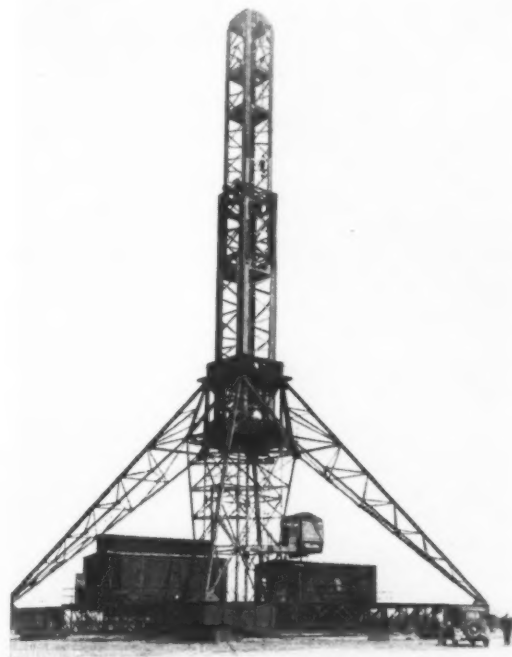

Fig. 4—Speed of mooring mast driving motors is balanced on curved track
**A** PPLICATION of a twin motor drive to a mooring mast holds a suggestion which should prove valuable to designers. The problem involves the necessity of varying automatically the relative speeds of two pairs of motors for propelling the structure over curved tracks spaced 65 feet apart. Located at Sunnyvale, Calif., the movable mast rises some 70 feet above ground (Fig. 4).